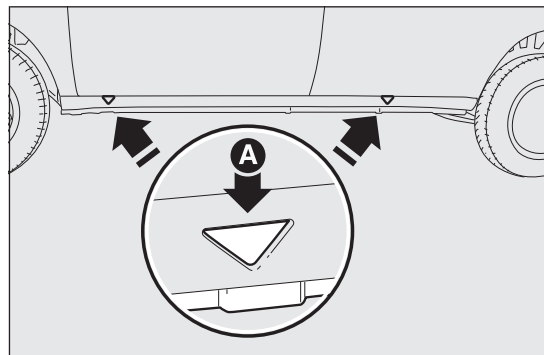
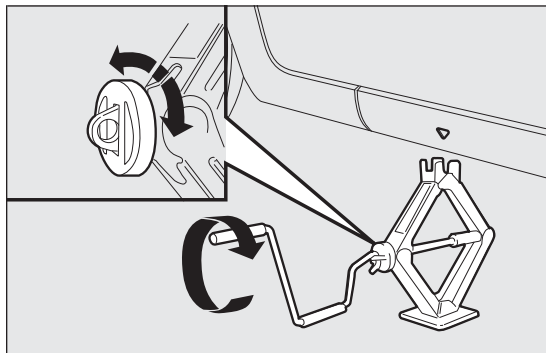

fig. 122
fig. 121
- ❑ turn the jack to open it partially fig. 121 and then position it under the vehicle at the references A fig. 122 near the wheel to be replaced;